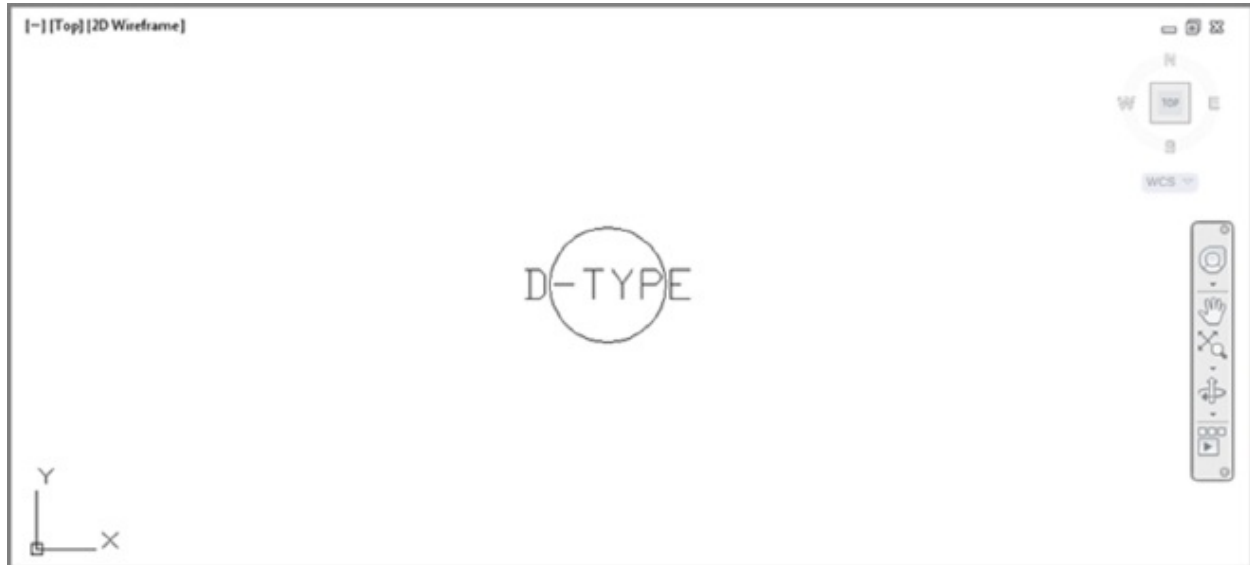

FIGURE 12.2 The attribute definition inserted in the circle
2. Zoom into the circle so that it's about the same size as that shown in Figure 12.2.
3. Using the Center osnap, pick the center of the circle. The attribute definition appears at the center of the circle (see Figure 12.2).